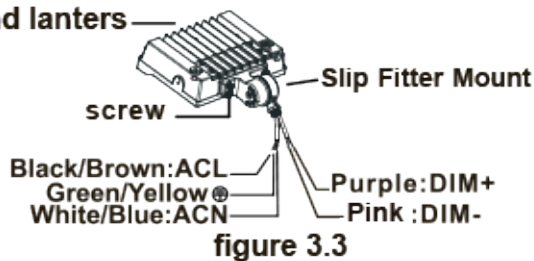

figure 3.3
Step 2: Finish the wire connection according to the right mode of connection (pay attention to positive wire, negative wire, and ground wire), and then put wire into lamp pole;(figure 3.3)